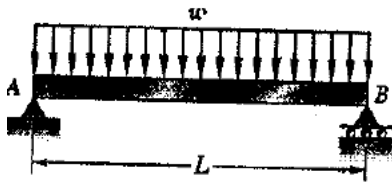

Fig 4
- a. Draw the shear and bending-moment diagrams for the loading in Fig 4 and then determine the equations of the shear and bending moment curves for the loading.[10]